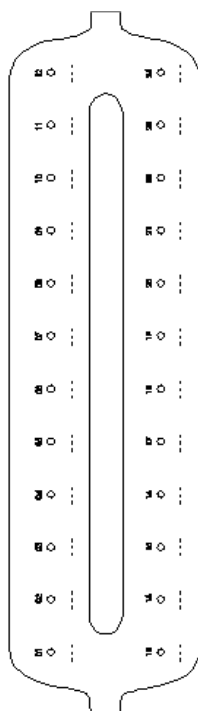

Figure 3. Labeling scheme for Lysis Tubes (LT), Elution Tubes (ET), and QIAamp Mini spin columns for use on the QIAvac 24 Plus vacuum system.
(1) VacValve, (2) VacConnector (VC), and (3) QIAamp Mini spin column.
If using the vacuum procedure with the QIAvac 24 Plus vacuum system, we recommend labeling the Lysis Tubes (LT), Elution Tubes (ET), and the QIAamp Mini spin columns according to the scheme in Figure 3 to avoid the mix-up of samples. This figure can be printed and labeled with the names of the samples. We recommend using a similar scheme if using other vacuum systems or if using the spin procedure.